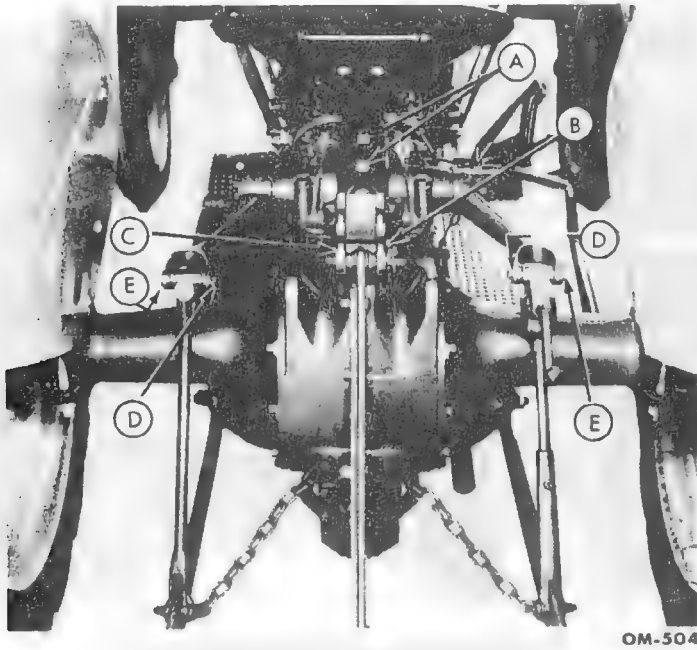

Fig. 65—Control Spring Adjustment
- (1) Remove the cotter pin (B-fig. 65) from the rocker pin.
- (2) Pull the rocker pin (C-fig. 65) and free the rocker from the main control spring yoke.
(1) Remove the cotter pins (D-fig. 65) from both leveling arm knuckle pins.
(2) Remove the knuckle pins (E-fig. 65) disengaging the leveling arms from the lift arms.
(3) Remove the fourteen hex head bolts that secure the lift cover casting to the center housing.